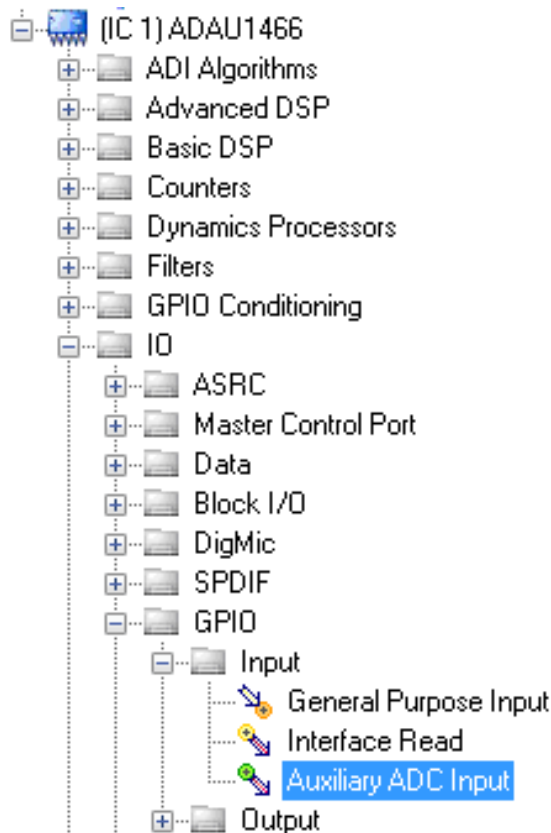

Figure 56. **Auxiliary ADC Input** Block Selection
- c. From the **IO > GPIO > Input** folder, click **Auxiliary ADC Input** (see Figure 56) and drag it into the project space to the right of the toolbox.